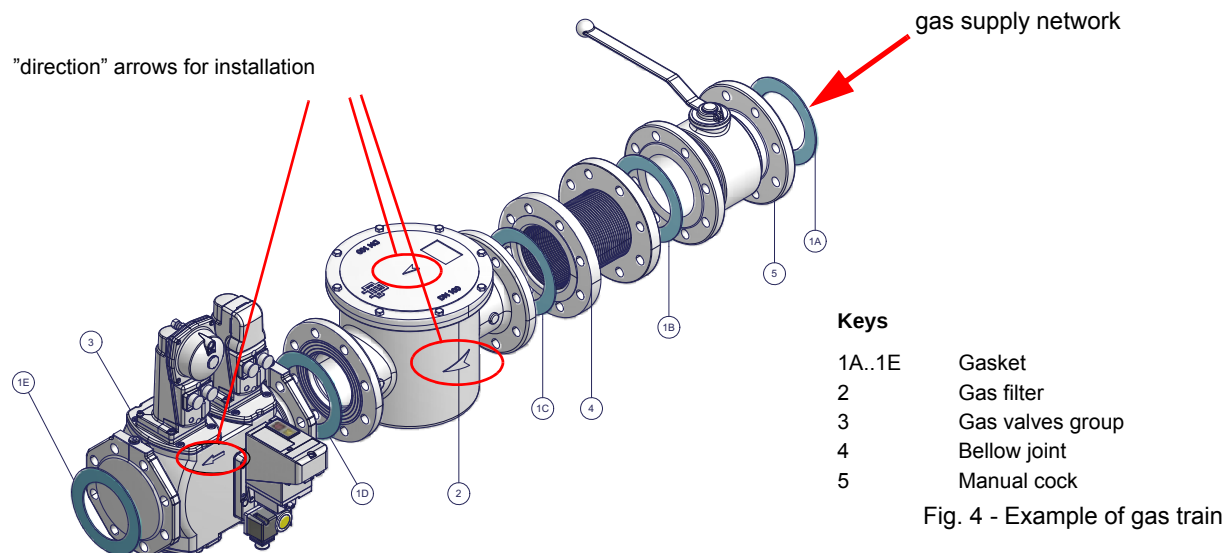

Fig. 4 - Example of gas train
- 1) in case of flanged joints: place a gasket (no. 1A..1E - Fig. 4) between the elements
ATTENTION: once the gas train is mounted according to the diagram on Fig. 4, the gas proving test must be performed, according to the procedure set by the laws in force.
ATTENTION: once the gas train is mounted according to the diagram on Fig. 4, the gas proving test mus be performed, according to the procedure set by the laws in force.